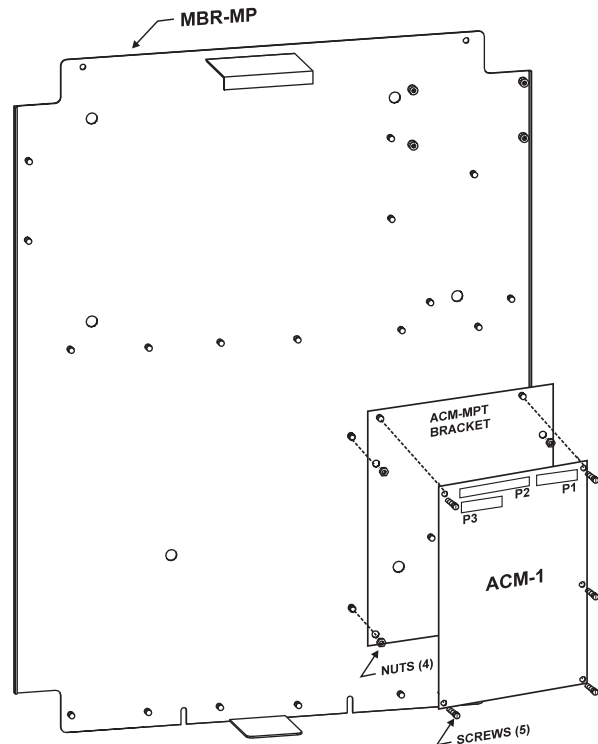

Figure 3
- a. Mount the ACM-MPT bracket on the 4 studs located in the lower right hand corner of the MME-3 backbox. (These are the same studs used for a TSP-40 printer.) Secure the bracket with the four nuts provided. (See Figure 3.)
- b. Be sure that P1 is in the upper right hand corner of the ACM. (Refer to Figure 3.) Mount the ACM-1 PC board over the six threaded mounting spacers.
- c. Fasten the module in place with the five No. 6 screws provided (one of the spacers is used for support). (Refer to Figure 3.)